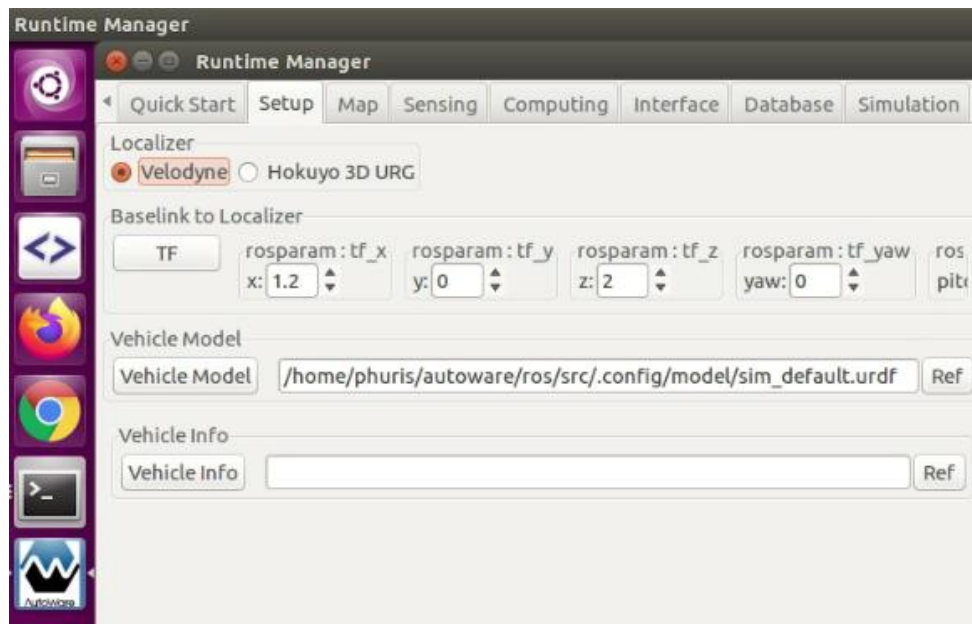

Figure 30: A screenshot of the Setup Tab to select Vehicle Model
Step 2: After the Autoware Runtime manager window pops up on the screen, under the “Setup” tab, Vehicle Model will be selected. The path to the file for vehicle model can also be seen in the figure 30. Vehicle Model button can be clicked to select it.